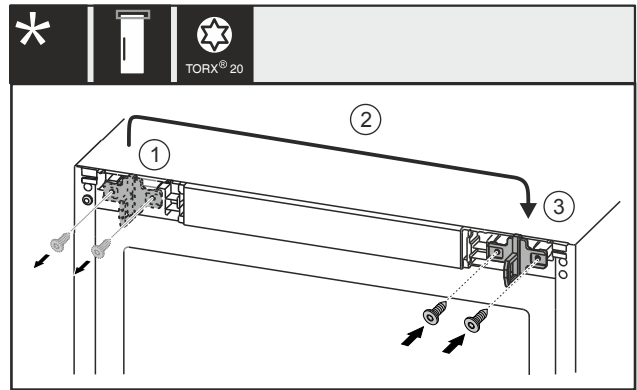

Fig. 24 With electrical lock*
- Pull out the screws Fig. 24 (1) with the screwdriver.*
- Move the closing hook Fig. 24 (2) to the opposite side.*
- Attach and tighten the screws Fig. 24 (3) with a screwdriver.*